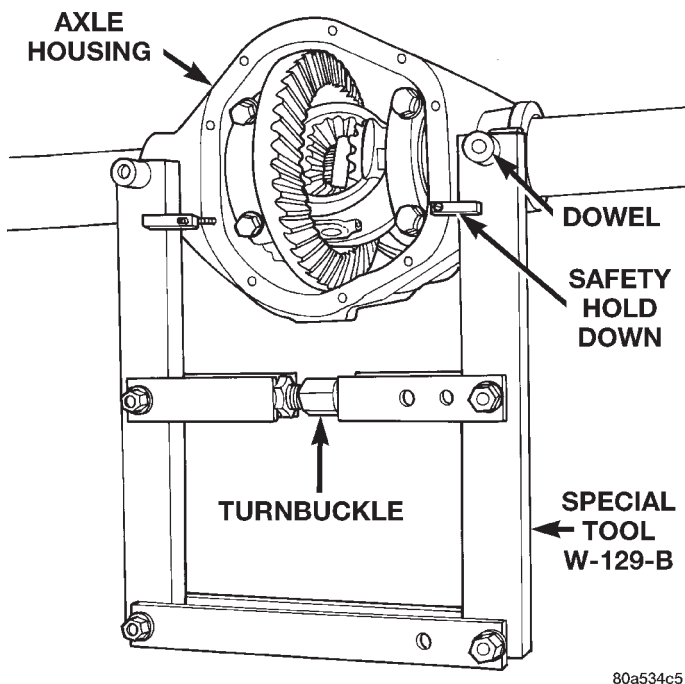

Fig. 25 Install Axle Housing Spreader
(6) Loosen the differential bearing cap bolts.
(7) Position Spreader W-129-B, utilizing some items from Adapter Kit 6987, with the tool dowel pins seated in the locating holes (Fig. 25). Install the holddown clamps and tighten the tool turnbuckle finger-tight.